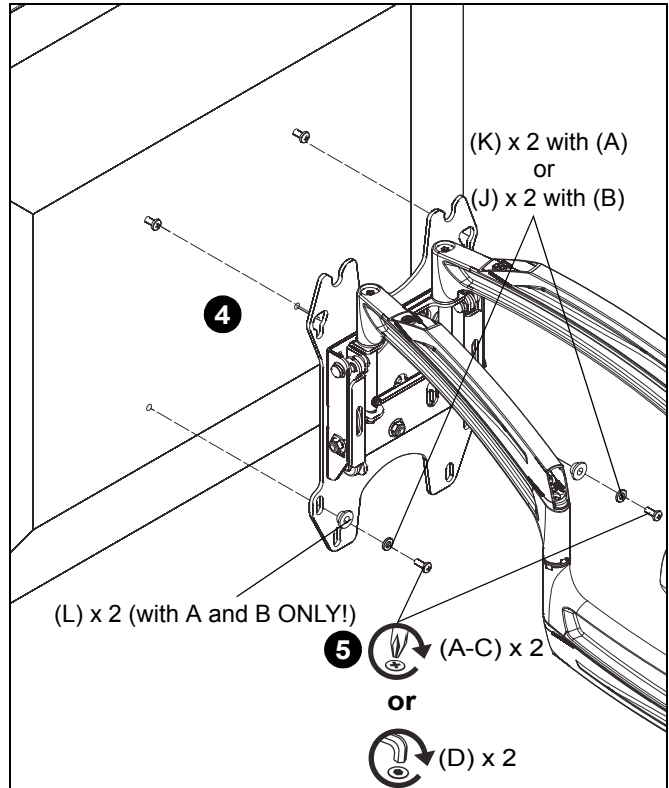

Figure 17
4. Hang display by two screws onto faceplate through either inner or outer teardrop mounting holes. (200x200 mounting pattern shown) (See Figure 17)
5. Secure display to faceplate by installing two selected screws (A-D) through washer hardware (J,K, and L) for M4 (A) and M5 (B) screws only, lower holes on faceplate and into lower two holes on display. (See Figure 17)